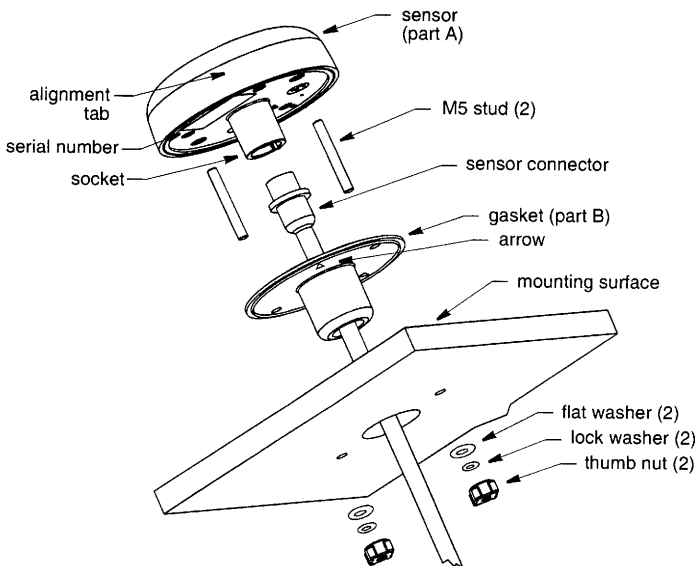

Figure 4. Flush mount
1. Remove the label from over the sensor's socket (part A) (see Figure 4).
2. Strip 60mm (2-1/2") of the outer jacket and foil shielding from the cut end of the cable (see Figure 4).